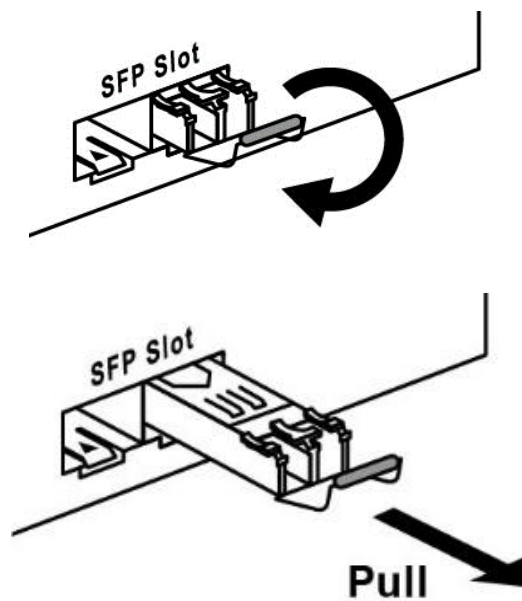

Figure 2.8: Pull Out from the SFP Module
Step 2 Push down the metal clasp and pull the transceiver out by the plastic part as shown below in Figure 2.8